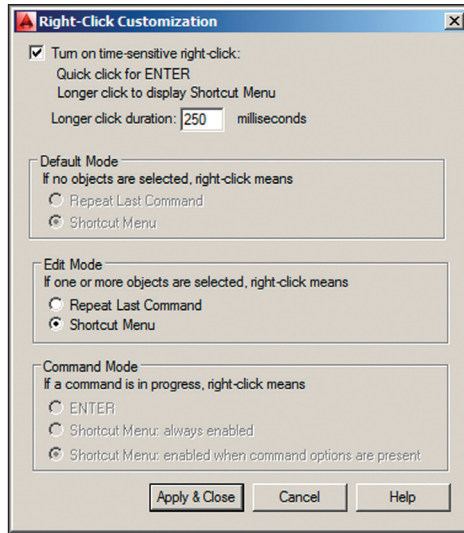

FIGURE 2.8 Turning on Time-Sensitive Right-Click for more efficient drawing
7. Open the Application menu and click the Options button at the bottom. Click the User Preferences tab in the Options dialog box that appears. Under the Windows Standard Behavior section, select Right-Click Customization and then, in the new dialog box, select Turn On Time-Sensitive Right-Click (see Figure 2.8). Click Apply & Close and then click OK in the Options dialog box.